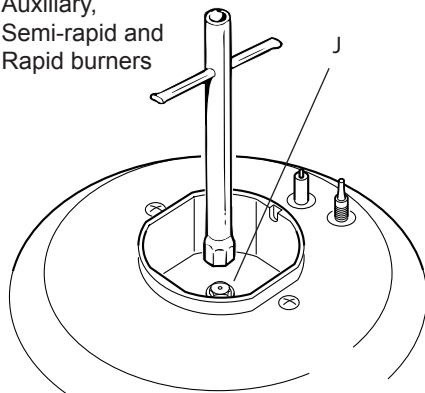

Fig. 10.5
- Using a wrench, substitute the nozzle injectors "J" (figs. 10.5, 10.6) with those most suitable for the kind of gas for which it is to be used.